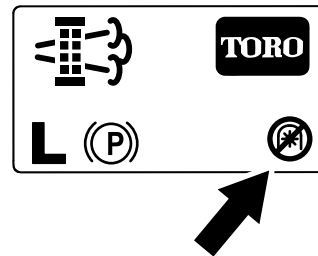

Figure 46
**Note:** The Home screen displays the PTO disabled Icon (Figure 46).
**Note:** The Home screen displays the PTO disabled icon; refer to Figure 46 in Parked Regeneration Messages \(page 40\).